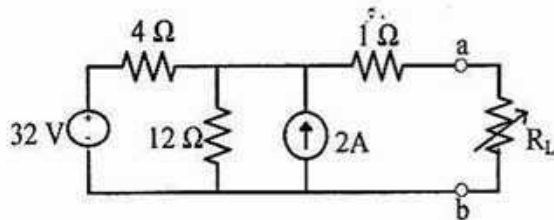

Fig. 4(b)
- (b) Find Thevenin's equivalent circuit to the left of a-b terminal of circuit shown in Fig. 4(b). Using your Thevenin's equivalent circuit find current through  $R_L$  when  $R_L = 6, 16$  and  $36\Omega$ . [20]